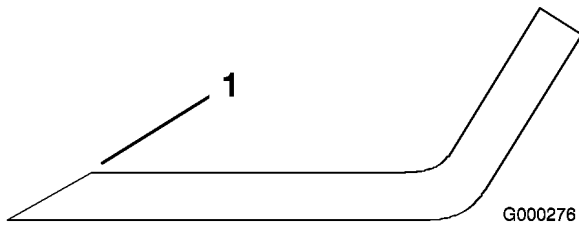

Figure 94
3. Examine the cutting edges of all of the blades. Sharpen the cutting edges if they are dull or nicked. Sharpen only the top of the cutting edge and maintain the original cutting angle to make sure of sharpness (Figure 94). The blade will remain balanced if the same amount of metal is removed from both cutting edges.